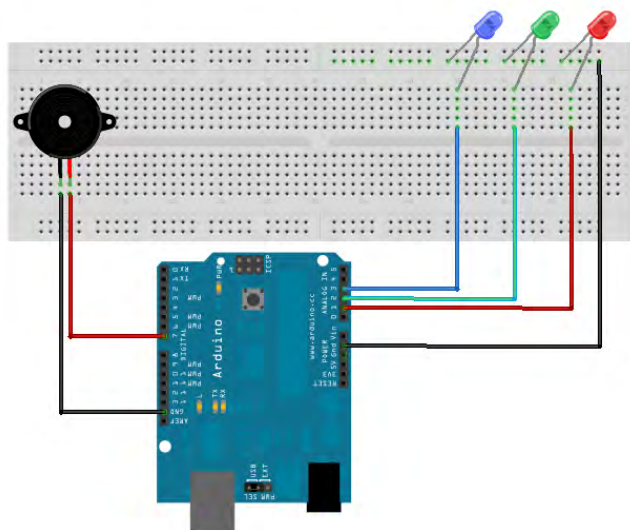

Figure 5-2. *Step two.*
2. Connect the speaker (Figure 5-2). Plug the positive lead into Arduino digital pin 7 and the negative pin into Arduino GND. Many speakers don't list the polarity of their connection, so don't worry too much about this; just plug it in!